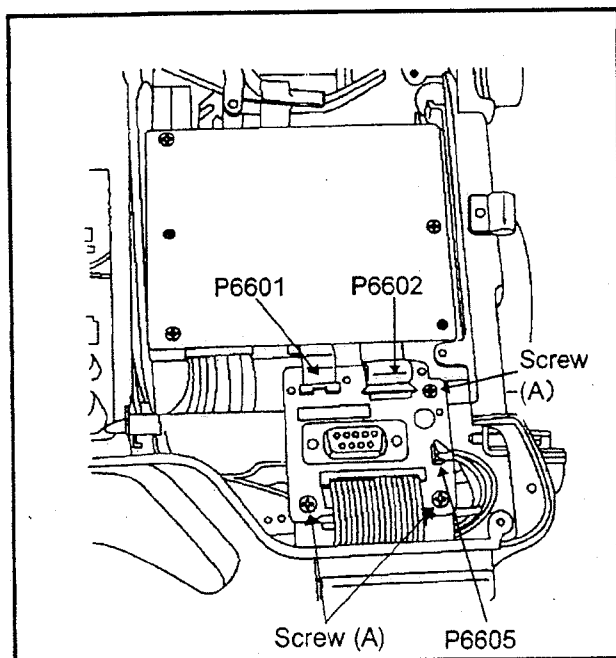

Fig. CCD1
2. Disconnect P6601, P6602 and P6605, unscrew 3 screws (A) on the TEST Connection C.B.A.(Fig. CCD1)